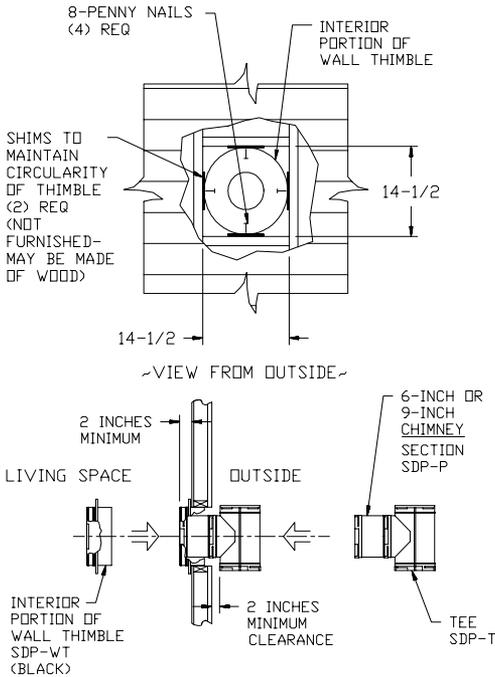

Fig 26
3. Install Wall Thimble: Insert the black section of the **Wall Thimble** into the opening in the wall from inside the room, and align the nail holes with the studs. (Figure 26). Do not nail the black thimble section at this time. Attach the **Tee** to a 9-inch or 12-inch **Chimney Section** by twisting until it is firmly locked. If the wall is less than 6 inches thick, use a 9-inch Chimney Section; if the wall is between 6 and 9 inches thick, use a 12-inch Chimney Section. From outside the building, insert the **Chimney Section** into the hole until the vertical part of the Tee is **2 inches** away from the outside of the wall, and the black portion of the **Wall Thimble** and